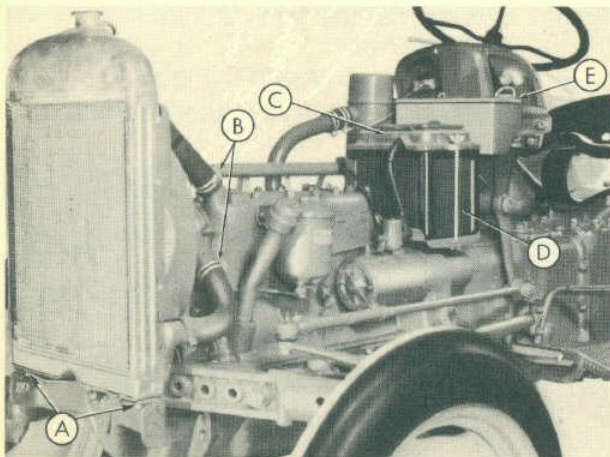

Fig. 4
- Step 1—Remove the two cap screws (A-Figure 4) that hold the radiator to the front axle support.
- Step 2—Disconnect the radiator hoses (B-Figure 4) from the water pump and the head.
- Step 1—Remove the battery cover (C-Figure 4).
- Step 3—Remove the battery (D-Figure 4).
- Step 4—Remove the tool box (E-Figure 4).